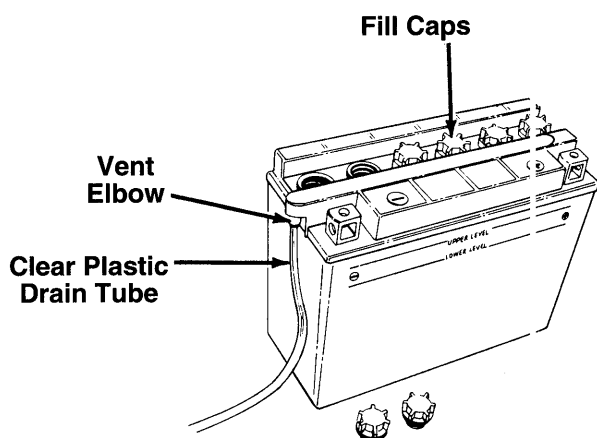

FIGURE 2.
4. Remove the six fill caps from the top of the battery. See figure 2.